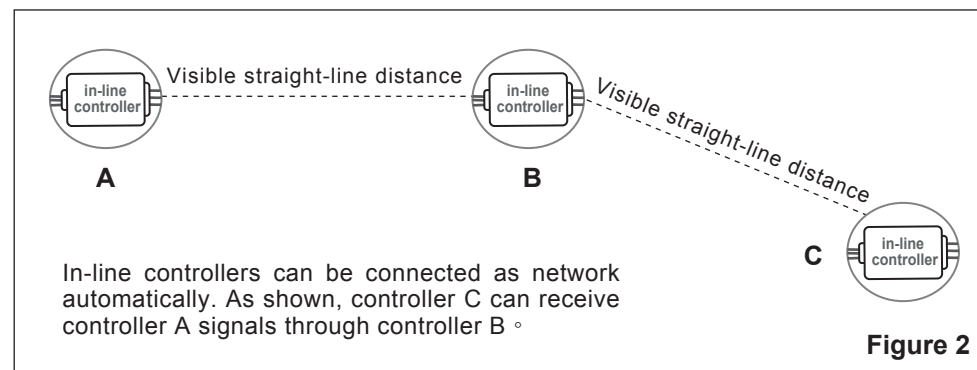
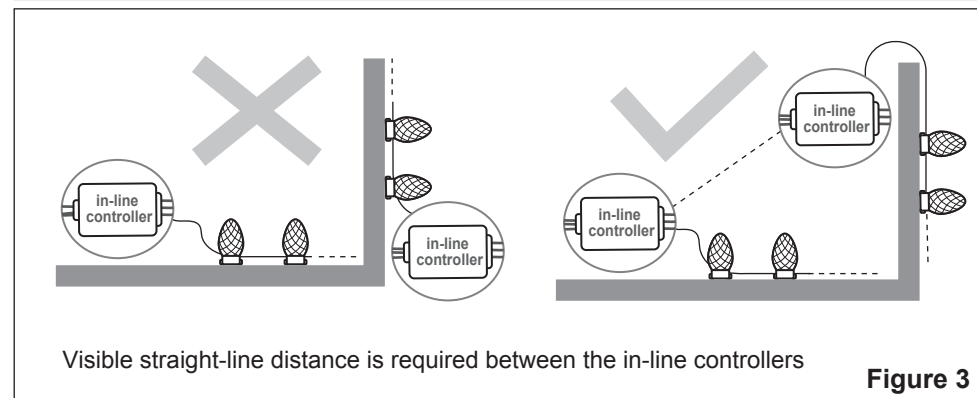

Figure 2
Figure 3
2. El control remoto tiene 10 botones (Fig. 2):
- Visible straight-line distance is required between the controllers (as shown in Figure 2 / Figure 3)